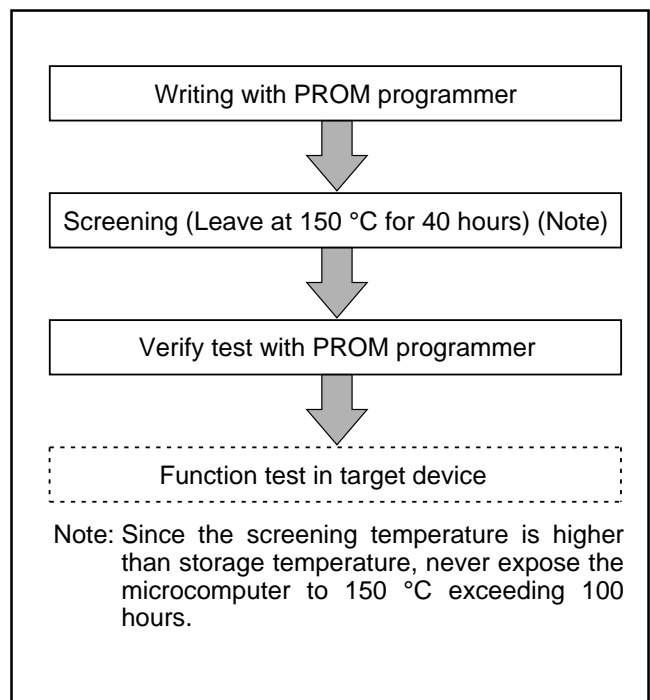

Fig. 52 Flow of writing and test of the product shipped in blank
- ① A high-voltage is used for writing. Take care that overvoltage is not applied. Take care especially at turning on the power.
- ② For the One Time PROM version shipped in blank, Mitsubishi Electric corp. does not perform PROM writing test and screening in the assembly process and following processes. In order to improve reliability after writing, performing writing and test according to the flow shown in Figure 52 before using is recommended (Products shipped in blank: PROM contents is not written in factory when shipped).